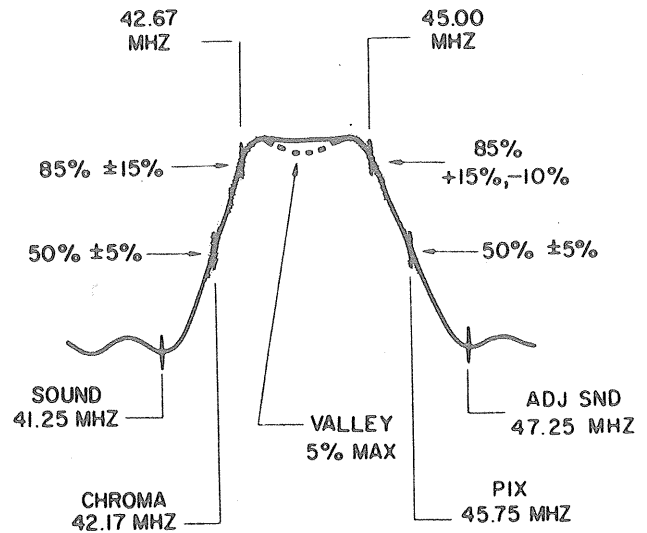

Figure 31. Typical I-F Response Curve Showing Tolerance Ranges of Response Levels
- Select the marker generator frequencies required to check the critical frequencies of interest (see Figure 31). A sweep and marker generator capable of displaying all the markers simultaneously, such as the B & K Model 415, is a big advantage.